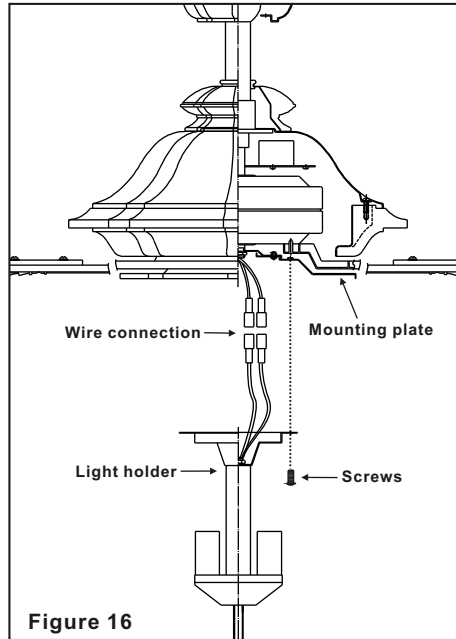

Figure 16
2. Install the light holder onto the mounting plate with 3 screws provided. Be sure to tighten all screws. (Fig. 16)